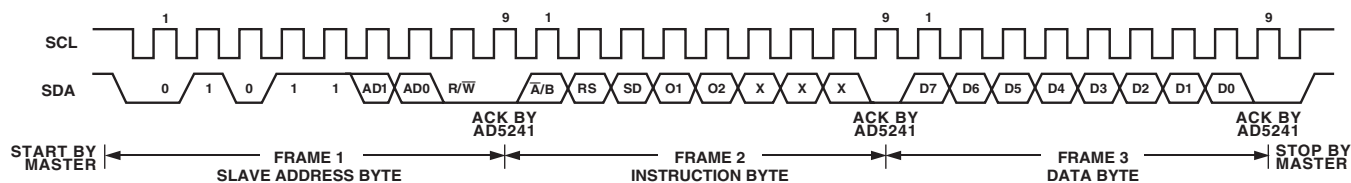

Figure 2. Writing to the RDAC Serial Register
Referring to Figures 2 and 3, the first byte of AD5241/AD5242 is a Slave Address Byte. It has a 7-bit slave address and an R/ $\overline{W}$  Bit. The 5 MSBs are 01011 and the following two bits are determined by the state of the AD0 and AD1 Pins of the device. AD0 and AD1 allow users to use up to four of these devices on one bus.
1. The master initiates data transfer by establishing a START condition, which is when a high-to-low transition on the SDA line occurs while SCL is high (Figure 2). The following byte is the Slave Address Byte, Frame 1, which consists of the 7-bit slave address followed by an R/ $\overline{W}$  Bit (this bit determines whether data will be read from or written to the slave device).
Pin except that  $\overline{\text{SHDN}}$  Pin reacts to active low. The following two bits are  $O_2$  and  $O_1$ . They are extra programmable logic outputs that users can use to drive other digital loads, logic gates, LED drivers, analog switches, and the like. The three LSBs are Don't Care. See Figure 2.
- After acknowledging the Instruction Byte, the last byte in Write Mode is the Data Byte, Frame 3. Data is transmitted over the serial bus in sequences of nine clock pulses (eight data bits followed by an Acknowledge Bit). The transitions on the SDA line must occur during the low period of SCL and remain stable during the high period of SCL (Figure 2).
- When all Data Bits have been read or written, a STOP condition is established by the master. A STOP condition is defined as a low-to-high transition on the SDA line while SCL is high. In Write Mode, the master will pull the SDA line high during the tenth clock pulse to establish a STOP condition (see Figure 2). In Read Mode, the master will issue a No Acknowledge for the ninth clock pulse (i.e., the SDA line remains high). The master will then bring the SDA line low before the tenth clock pulse, which goes high to establish a STOP condition (see Figure 3).
Specific to the AD5242 dual-channel device, the channel of interest is the one that was previously selected in the Write Mode. In addition, to read both RDAC values consecutively, users have to perform two write-read cycles. For example, users may first specify the RDAC1 subaddress in the Write Mode (it is not necessary to issue the Data Byte and the STOP condition), then change to the Read Mode and read the RDAC1 value. To continue reading the RDAC2 value, users have to switch back to the Write Mode and specify the subaddress, then switch once again to the Read Mode and read the RDAC2 value. It is not necessary to issue the Write Mode Data Byte or the first stop condition for this operation. Users should refer to Figures 2 and 3 for the programming format.